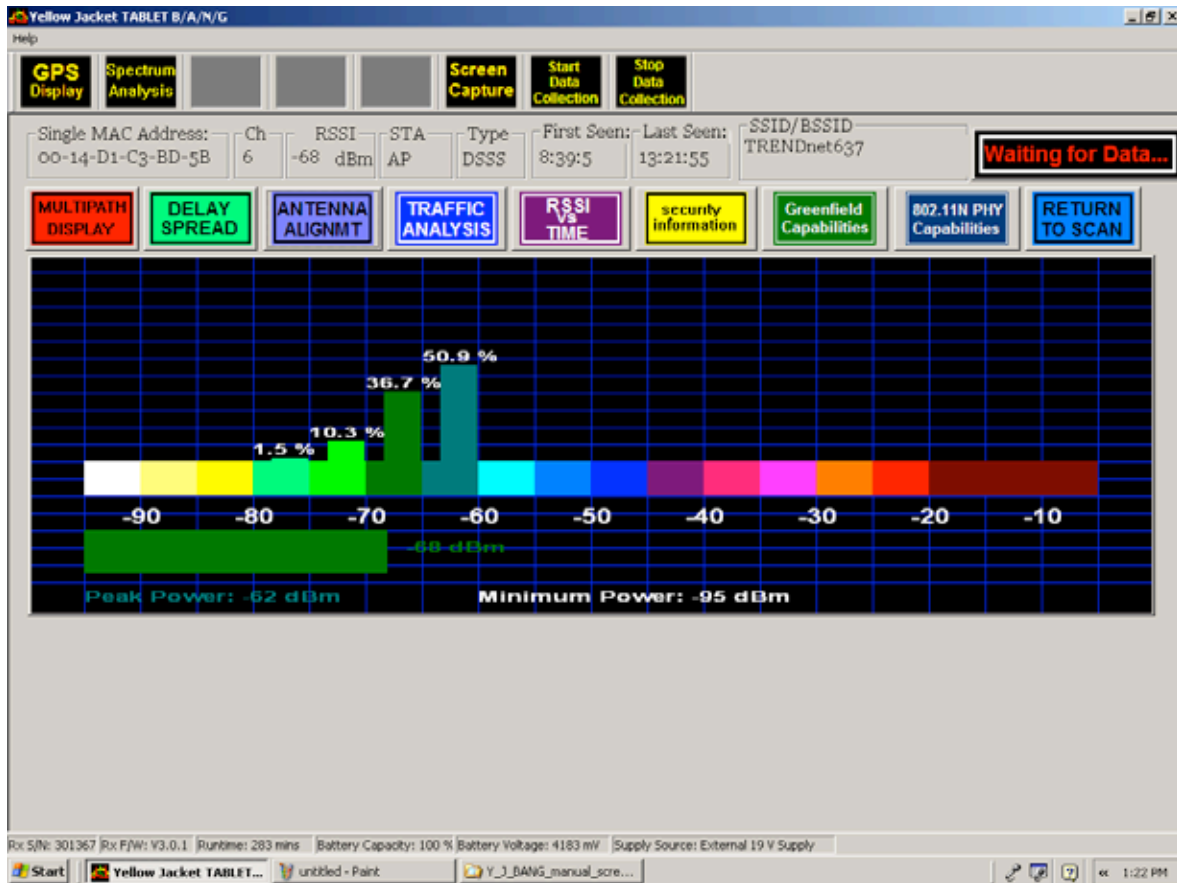

Figure 15. Antenna Alignment function window
**Antenna Alignment:** The antenna alignment screen displays the percent distribution of observed values of the Received Signal Strength Indicator (RSSI) as a function of signal strength in real time. The color of the RSSI distribution components indicate signal strength according to the color code seen in Figure 15. This function allows the user to identify and physically locate sources with a specific MAC address. More on this subject is discussed below in a section entitled “Direction Finding Antenna Use in Single-MAC Mode of Operation”.